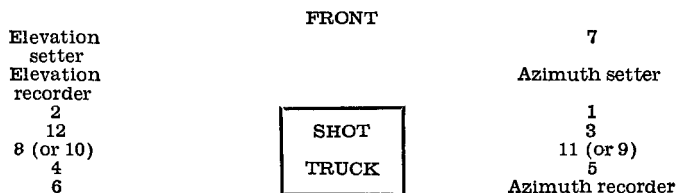

FIGURE 3.—COVER POSTS.
■ 22. COVER POSTS.—*a.* At the command TAKE COVER, given at any time, the squads take position in rear of the emplacement. Each squad is in double column as shown in figure 3.